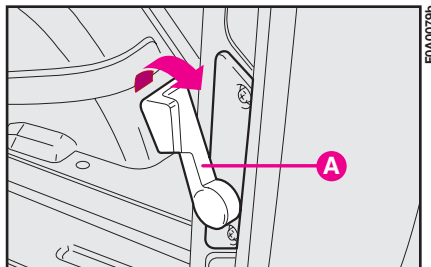

fig. 117
After opening the first door, pull handle **A-fig. 117** in the direction of the arrow.
**IMPORTANT** Only use the handle **A-fig. 117** in the direction shown in the figure.